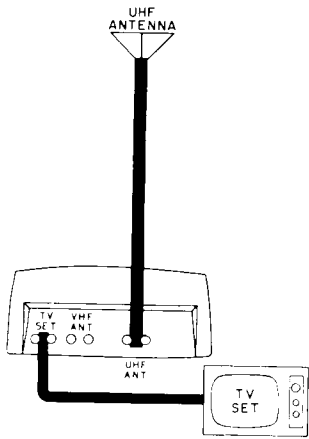

Figure 2
2. Figures 2, 3, 4, and 5 show how the converter is connected to the antenna and the TV set.